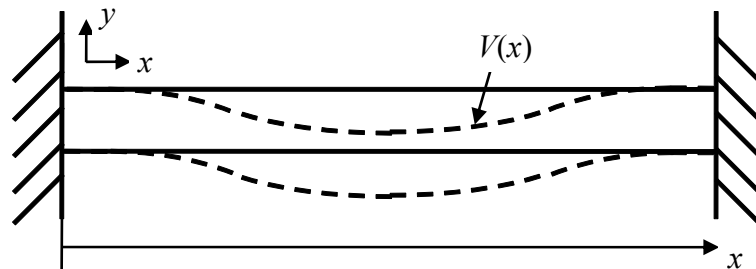

Figure 3
Find a general form of the solution to (2) that gives the mode shape of the beam, as indicated in Figure 3. (The mode shape is the shape of the beam at maximum amplitude during resonance.) This should be in terms of x , the resonance frequency ω , and some constants governed by boundary conditions, i.e., it should be expressed as $V=f(x,\omega)$, where V is a function describing the mode shape. You need not determine the values of the constants, but you should show them as variables (the same way you've done before in math courses).